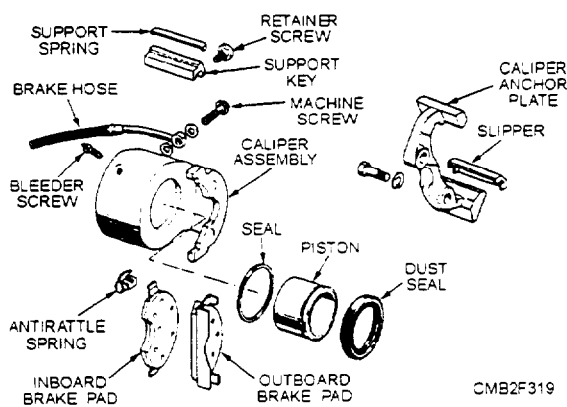

Figure 7-18.—Sliding caliper.
**SLIDING CALIPER TYPE.**—The sliding caliper type disc brake (fig. 7-18) is mounted in a slot in the caliper adapter. It is a variation of the floating caliper, using a single piston and operating on the same principle, whereby the piston applies pressure to one brake pad and the movable caliper applies pressure to the other.